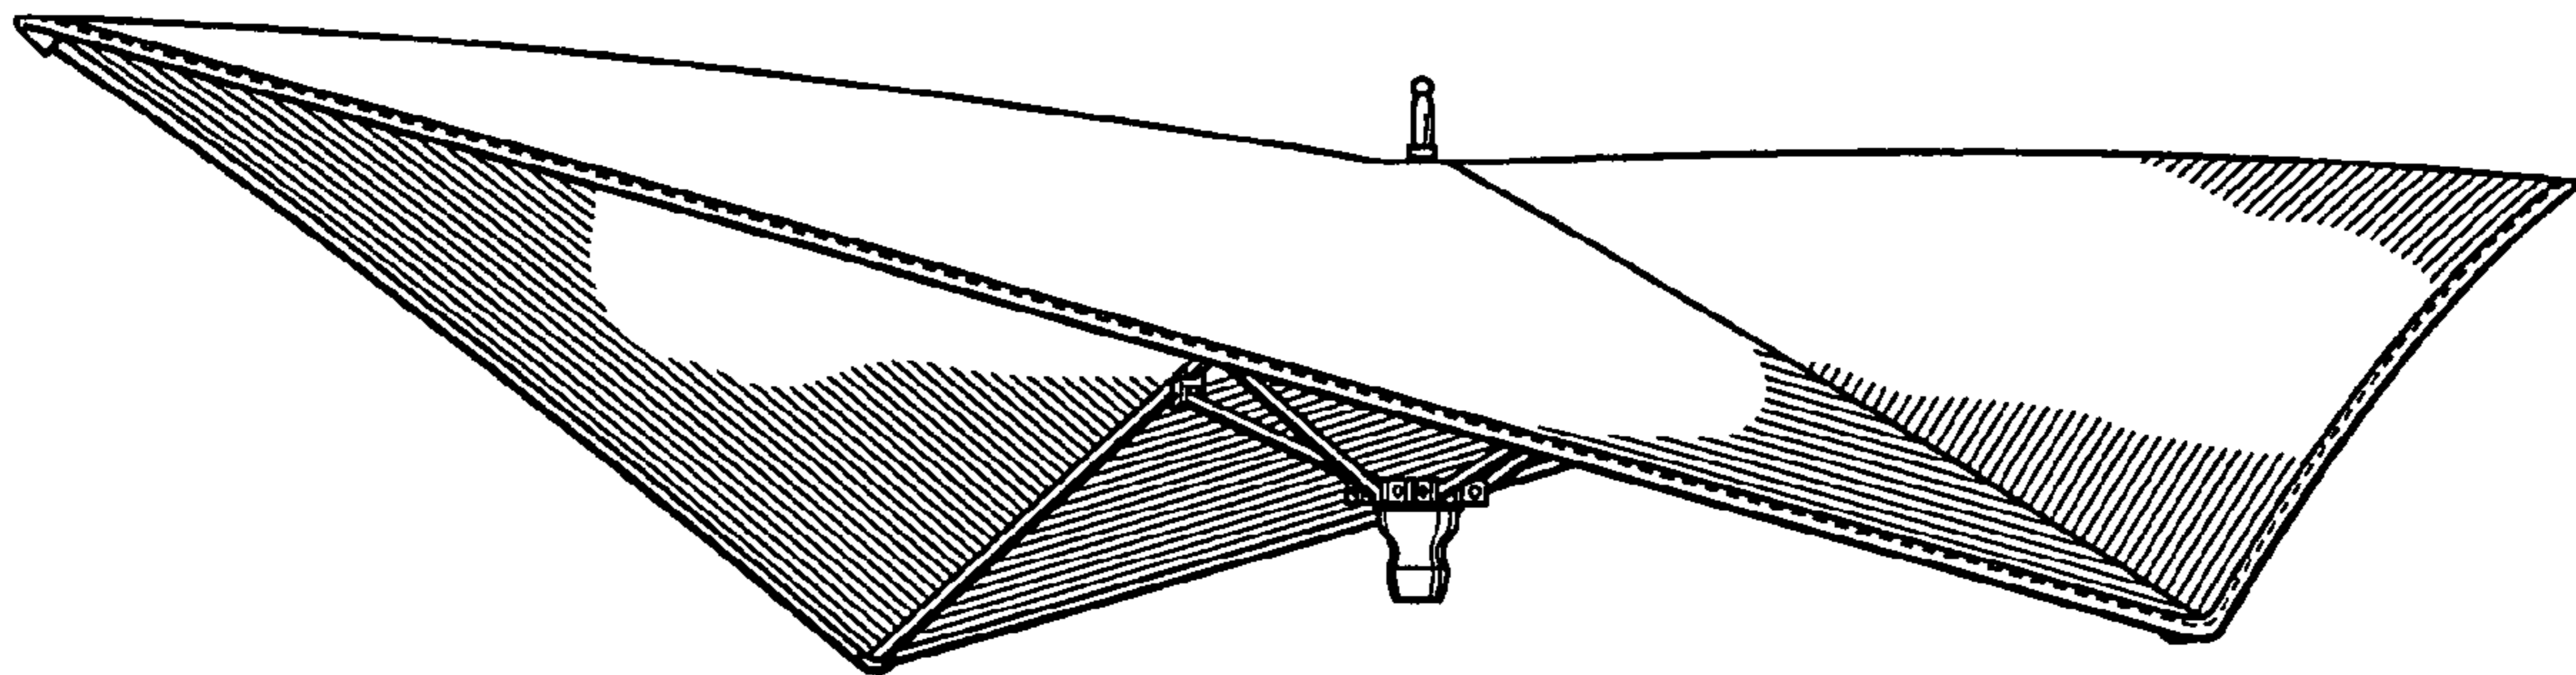
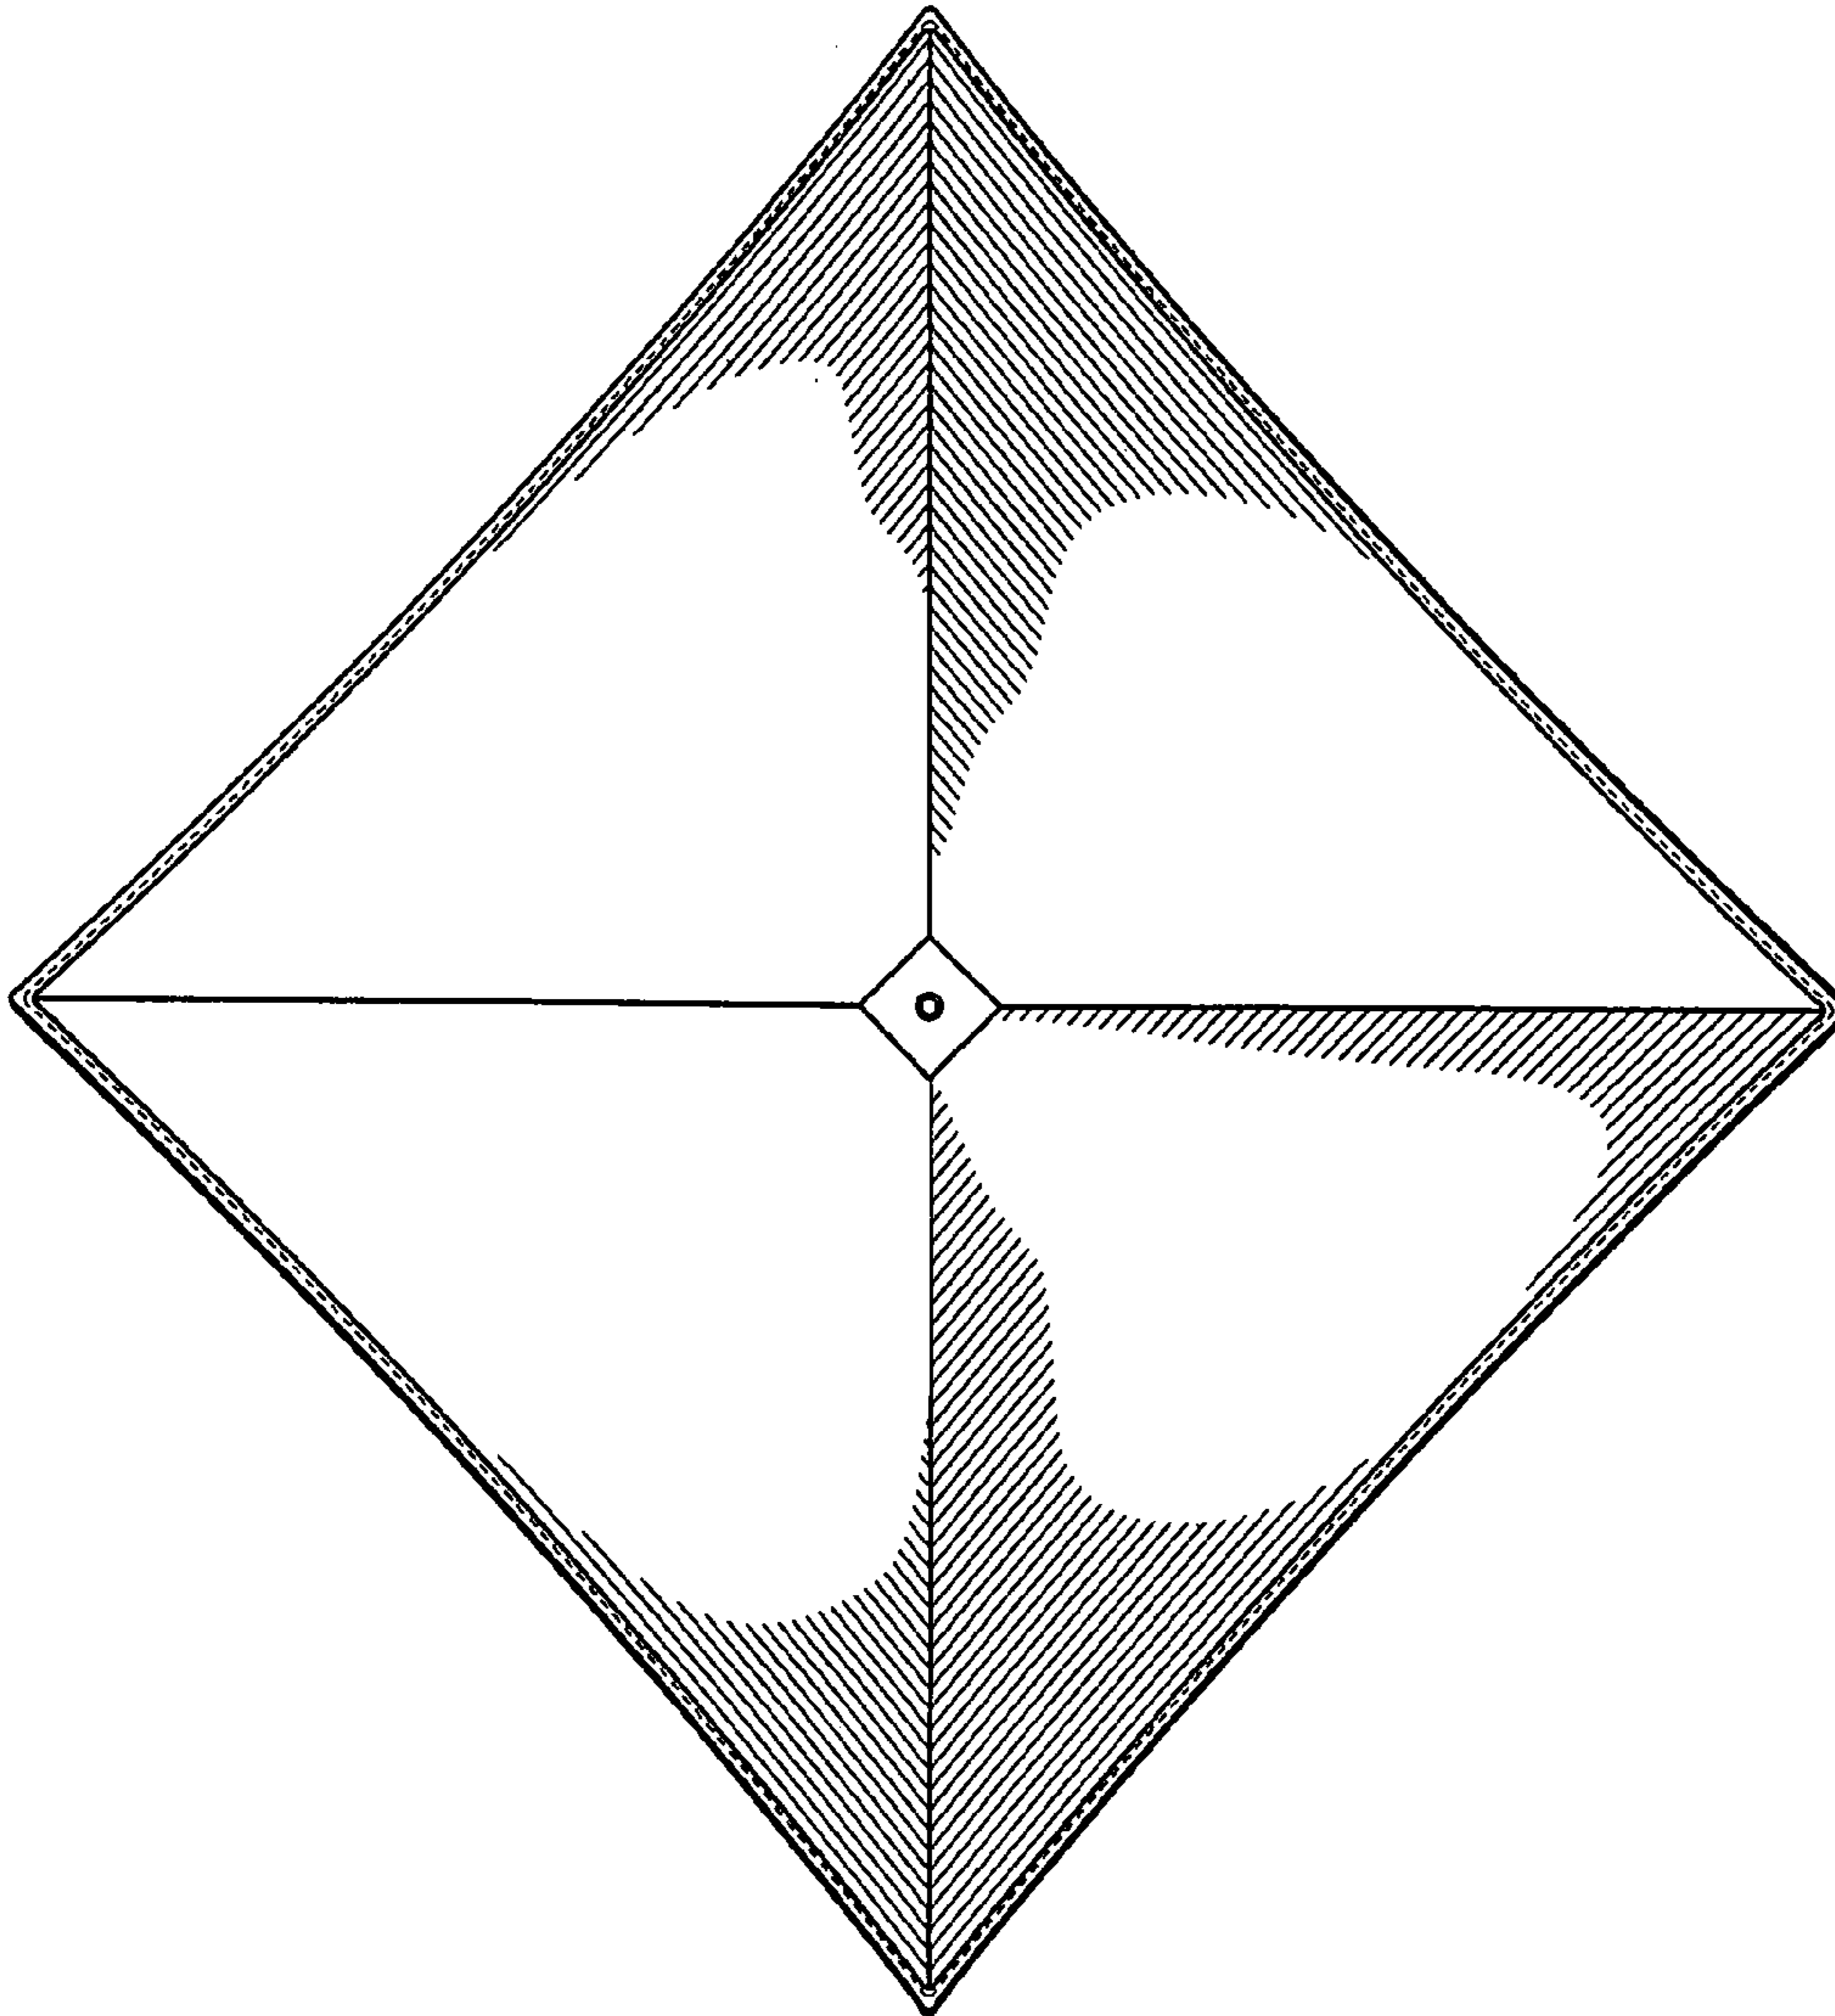

FIG. 1
FIG. 2
FIG. 1 is a perspective view of the umbrella canopy design according to my invention showing four (4) rib and strut member pairs alternating in the operative position shown in terms of height, wherein the lengths of each rib member are the same;
FIG. 2 is a top view of the umbrella canopy design shown in FIG. 1 according to my invention;